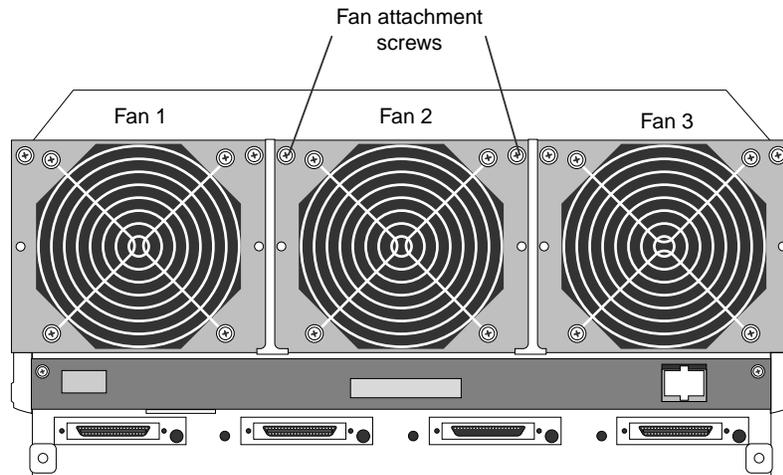

Figure 43. Location of HDDA fans (back of HDDA chassis)
2. Using a #1 Phillips screwdriver, remove the two screws that secure the fan to the chassis (Figure 43).